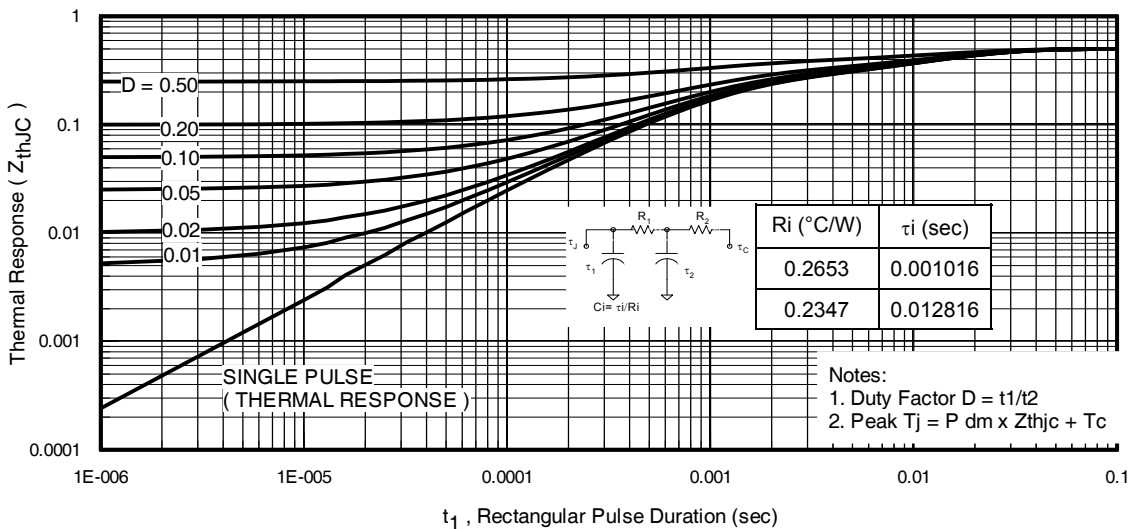
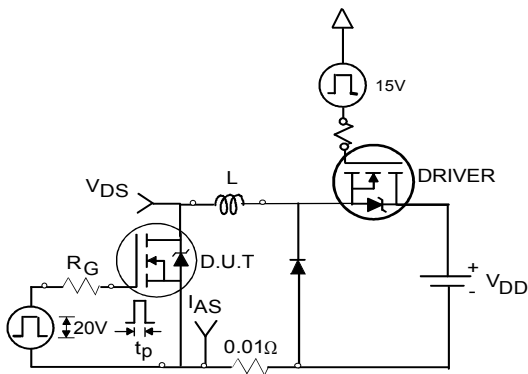

Fig 11. Maximum Effective Transient Thermal Impedance, Junction-to-Case
Fig 12a. Unclamped Inductive Test Circuit
- ① Calculated continuous current based on maximum allowable junction temperature. Bond wire current limit is 160A. Note that current limitations arising from heating of the device leads may occur with some lead mounting arrangements. (Refer to AN-1140)
- ② Repetitive rating; pulse width limited by max. junction temperature. (See fig. 11)
- ③ This value determined from sample failure population, starting T_J = 25°C, L = 0.23mH, R_G = 25Ω, I_{AS} = 75A, V_{GS} = 10V.
- ④ Pulse width ≤ 1.0ms; duty cycle ≤ 2%.
- ⑤ C_{oss eff.} is a fixed capacitance that gives the same charging time as C_{oss} while V_{DS} is rising from 0 to 80% V_{DSS}.
- ⑥ Limited by T_{Jmax}, see Fig.12a, 12b, 15, 16 for typical repetitive avalanche performance.
- ⑦ This is only applied to TO-220AB package.
- ⑧ This is applied to D²Pak When mounted on 1" square PCB (FR-4 or G-10 Material). For recommended footprint and soldering techniques refer to application note #AN-994
- ⑨ R_θ is measured at T_J of approximately 90°C
- ⑩ TO-220 device will have an R_{th} value of 0.45°C/W.
3. Equation below based on circuit and waveforms shown in Figures 12a, 12b.